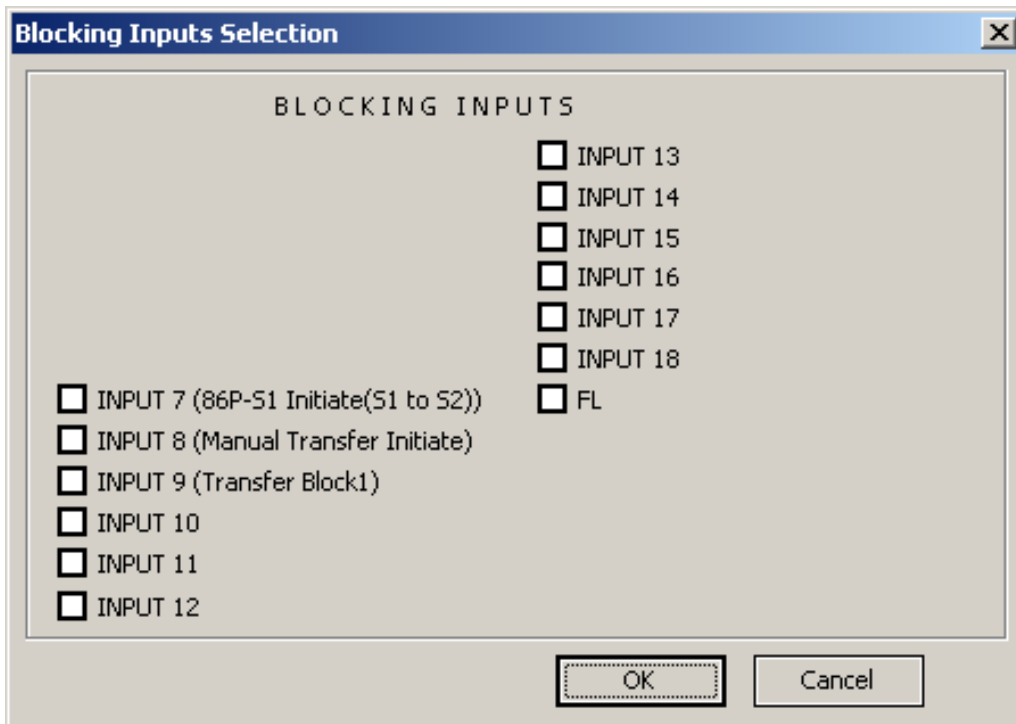

Figure 4-60 Delayed In-Phase Transfer Blocking Inputs Selection Dialog Screen
The Blocking Inputs Selection button opens the Blocking Inputs Selection dialog screen (Figure 4-60). Any Input or the Fuse Loss (FL) function can be selected to block a Delayed In-Phase Transfer. When an input is selected, it is not grayed out in other types of transfers.
The Blocking Inputs Selection button opens the Blocking Inputs Selection dialog screen (Figure 4-60). Any Input or the Fuse Loss (FL) function can be selected to block an Auto Trip. When an input is selected, it is not grayed out in other types of transfers.